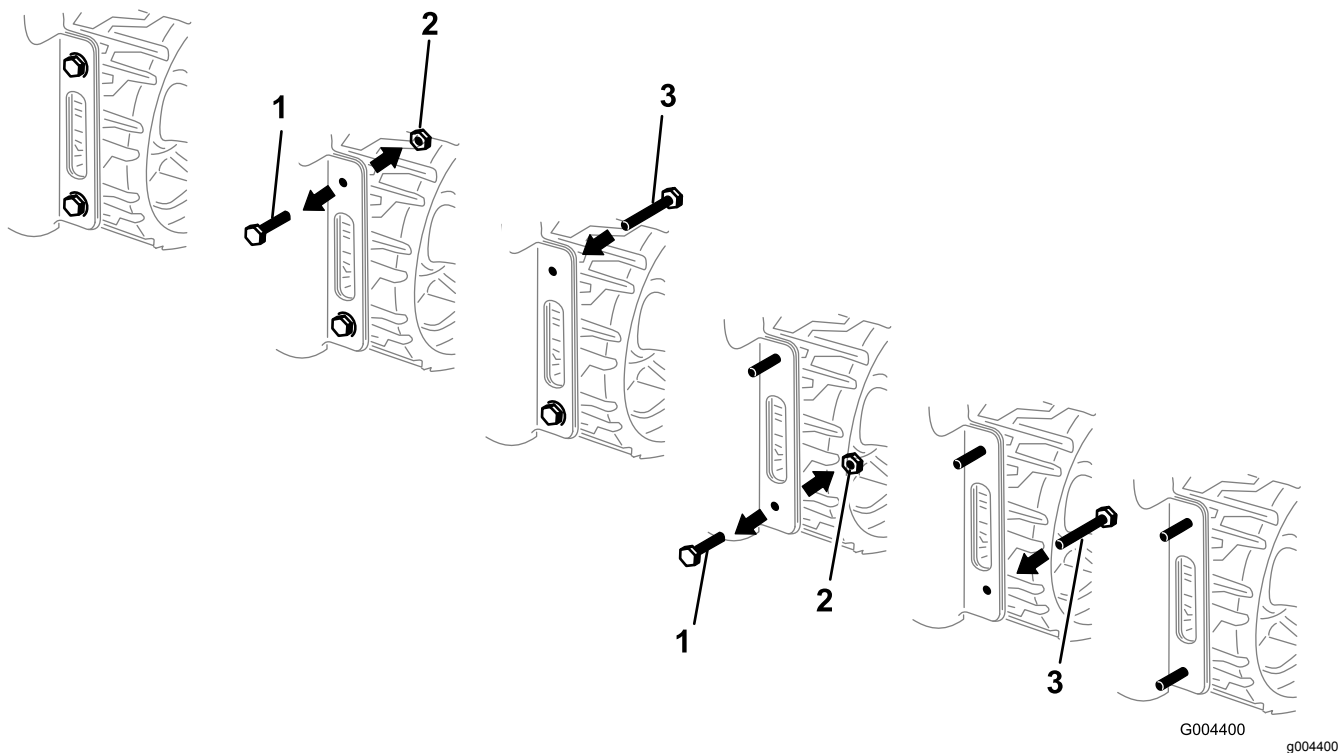

Figure 3
2. One at a time, replace the 4 bolts and nuts securing the sides of the lower rear panel to the frame with 4 new bolts (1/2 x 1-1/2 inches) as shown in Figure 3.